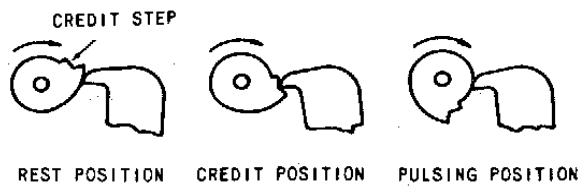

Figure 9. Cam Positions
1. Turn the motor manually until the latch bar lever drops to the credit step of the outer cam and then reverse the direction until the point of the lever is against the vertical part of the cam as shown in *Figure 9* above.
The selection switches have three conditions of operation corresponding to the 3-positions of the cam shown in *Figure 9* and are
1. Place the cam in the Credit Position (*Figure 9*).